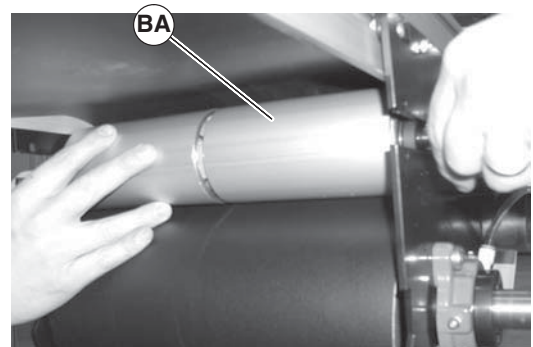

Figure 66
7. Slide out tensioning pulley (Figure 66, item BA).